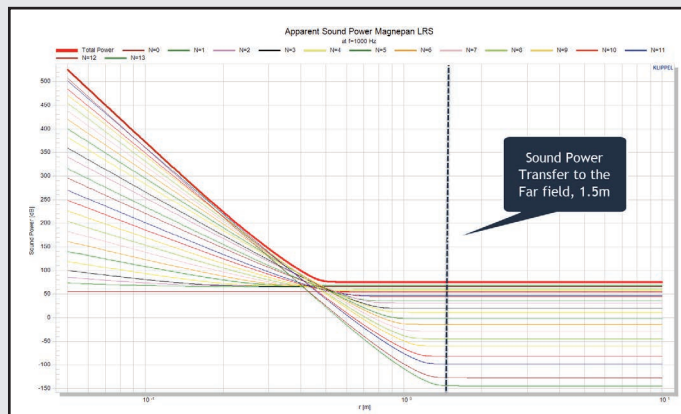

Figure 3: Apparent sound power transitioning from near- to far-field
**Figure 3** details sound power (Y) over distance (X, in meters) as the spherical harmonics increase (N) in ascending order. The near-field is characterized by a high amount of reactive power represented by high order Hankel functions. As seen in the graph, the near-field effects decrease over distance as it transitions into the far-field. After the transition, apparent sound power begins to be consistent as velocity and sound pressure become in phase with each other. This point of consistency is where the far-field begins.